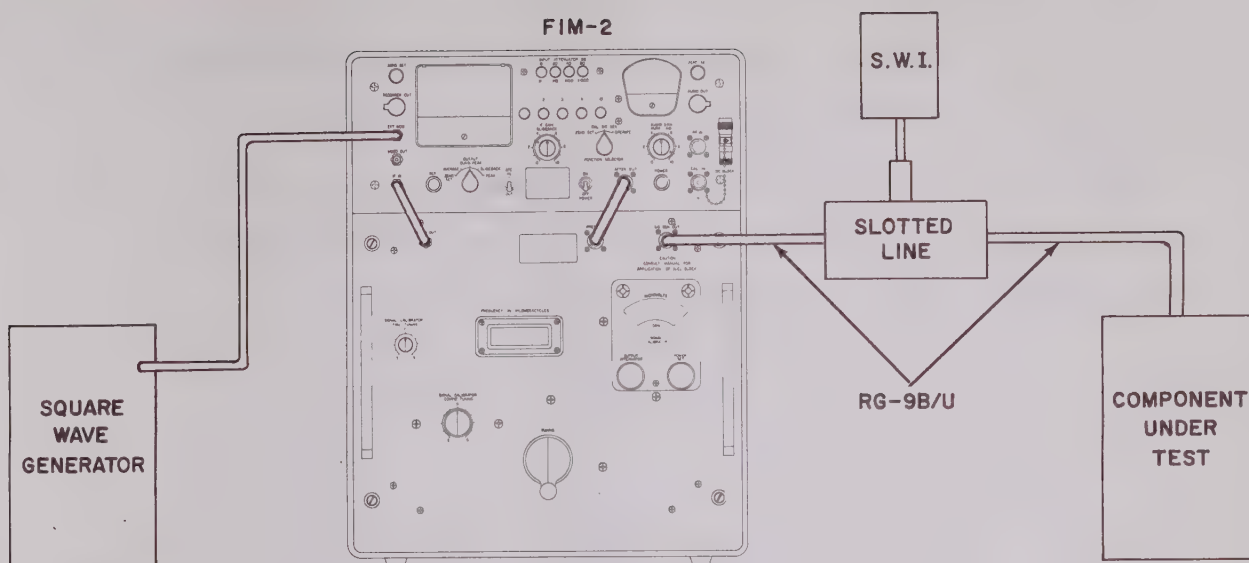

Figure 2-15A. VSWR Measurements Using an External Standing Wave Indicator, Equipment Set Up
a. Connect a square-wave generator to the EXT MOD jack, as shown in figure 2-15A.
c. Connect the input of the slotted line to the SIG GEN OUT jack, as shown in figure 2-15A.
d. Connect the output of the slotted line to the microwave component under test, as shown in figure 2-15A.
e. Connect the slotted line probe output to the input connector of the standing wave indicator, as shown in figure 2-15A.